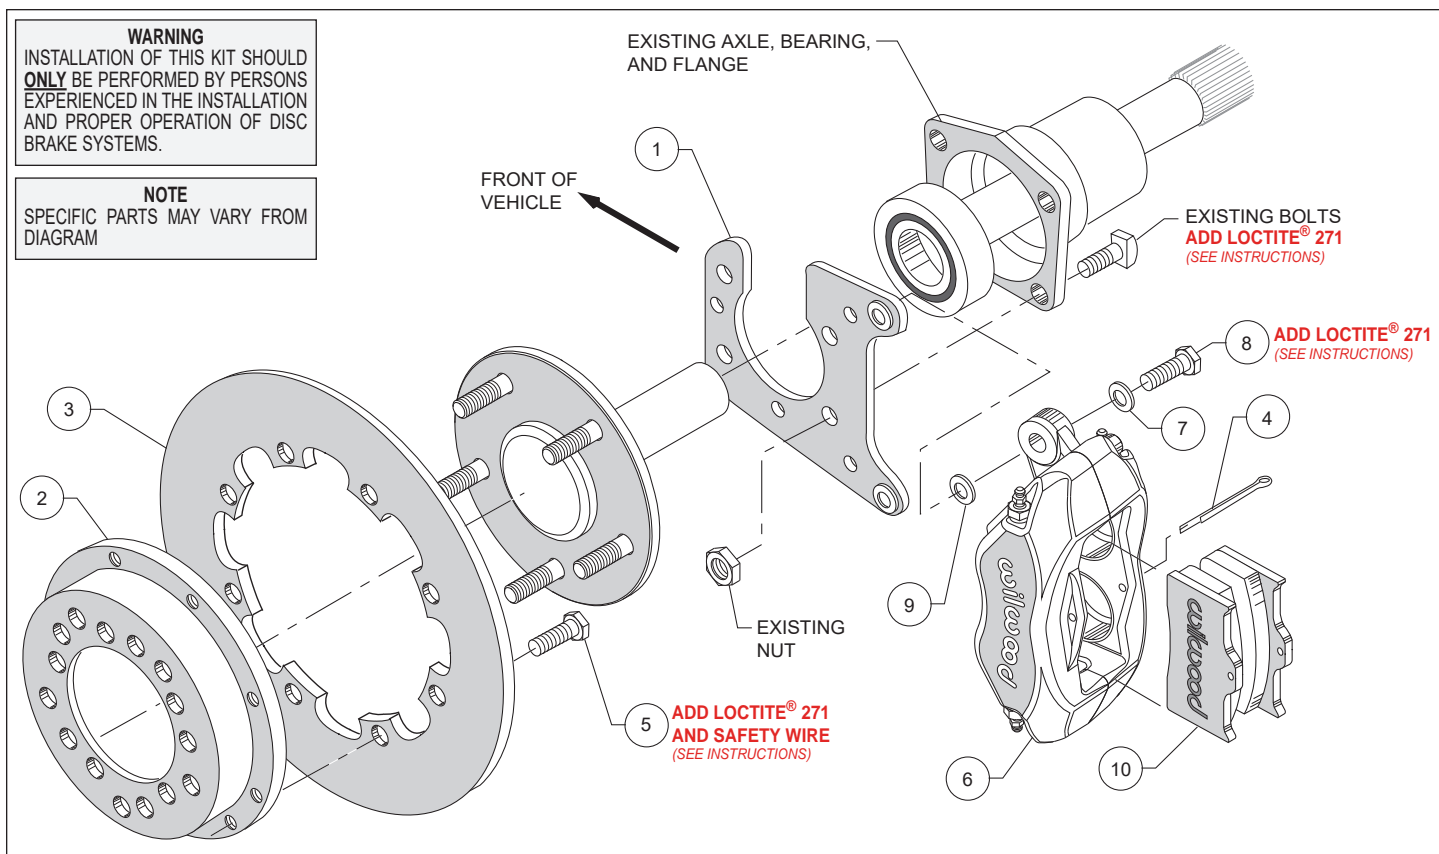
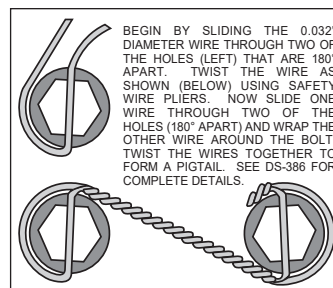
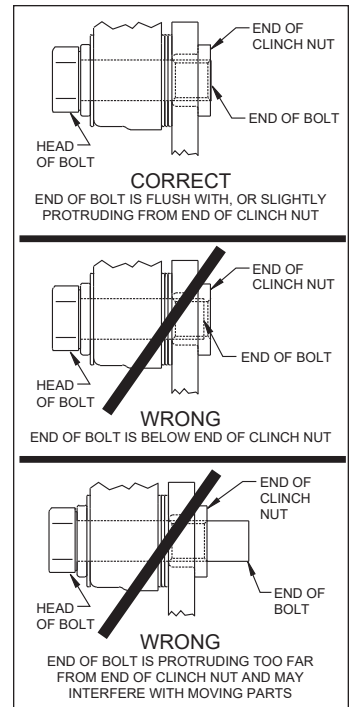

Figure 1. Typical Installation Configuration
Figure 4. Safety Wire Diagram
Figure 5. Clinch Nut Engagement Diagram
**Assembly Instructions** (numbers in parenthesis refer to the parts list, and Figure 1 on the preceding pages): **CAUTION:** All mounting bolts must fully engage clinch nuts. Be sure to check that all bolts are either flush or protruding through flanged side of clinch nut after shimming, Figure 5.
- Orient the caliper mount bracket (1) with the slot for the axle pointing upward, as shown in Figure 1 and Photo 1. Install using existing Original Equipment Manufacturer (OEM) bolts and washers. Temporarily tighten the mounting bolts. Ensure that the flanged heads of the clinch nuts in the bracket are facing outboard, Photo 1. **NOTE:** The bracket must fit squarely against the axle housing flange. Inspect for interference from casting irregularities, machining ridges, burrs, etc. Remove bolts one at a time, apply red *Loctite*® 271 to threads and torque nuts to manufacturer's specifications.
- Orient the rotor (3) and the hat (2) as shown in Figure 1 and Photo 2. Attach rotor to hat using bolts (5). Using an alternating sequence, apply red *Loctite*® 271 to the threads, and torque to 25 ft-lb. Safety wire bolts using standard 0.032 inch diameter stainless steel safety wire as shown in Figure 4. Refer to Wilwood's data sheet DS-386 (available at [www.wilwood.com/Pdf/DataSheets/ds386.pdf](http://www.wilwood.com/Pdf/DataSheets/ds386.pdf)) for complete safety wire installation instructions.
- Align the correct hole pattern in the rotor/hat with the stud pattern on the axle flange and slide into place, Figure 1 and Photo 3. **NOTE:** The rotor/hat must fit flush against the axle flange or excessive rotor run out may result. Install three lug nuts (finger tight) to keep the rotor/hat assembly in place while continuing with the installation. **NOTE:** Some OEM and after market axles come with stud sizes larger than 0.50" diameter. Verify stud size and have a qualified machine shop drill the bolt circle of the hat/rotor to the correct stud size, if necessary.
- **NOTE:** Please reference the caution statement at the beginning of the assembly instructions. Mount the caliper (6) onto the caliper mounting bracket (1) using bolts (8) and washers (7), as shown in Figure 1. Initially place one .032" thick shim (9) on each bolt between the caliper and the bracket, Photo 4. Temporarily tighten the mounting bolts and view the rotor (3) through the top opening of the caliper. The rotor should be centered in the caliper, Photo 5. If not, adjust by adding or subtracting shims (9) between the bracket and the caliper. Always use the same amount of shims on each of the two mounting bolts. **NOTE:** The end of each bolt must be flush with or slightly protruding from the head of the clinch nut, as shown in Figure 5. If necessary place spare shims between washer (7) and caliper mounting ear to achieve the proper clinch nut engagement. Once the caliper alignment and clinch nut engagement are correct, remove the bolts one at a time, apply red *Loctite*® 271 to bolt threads, and torque to 40 ft-lb. Caliper mount bolts may be safety wired for additional security.---
- Install the disc brake pads (10) into the caliper, with the friction material facing the rotor (3), Photo (6) and secure in place using cotter pin (4), Photo 7.